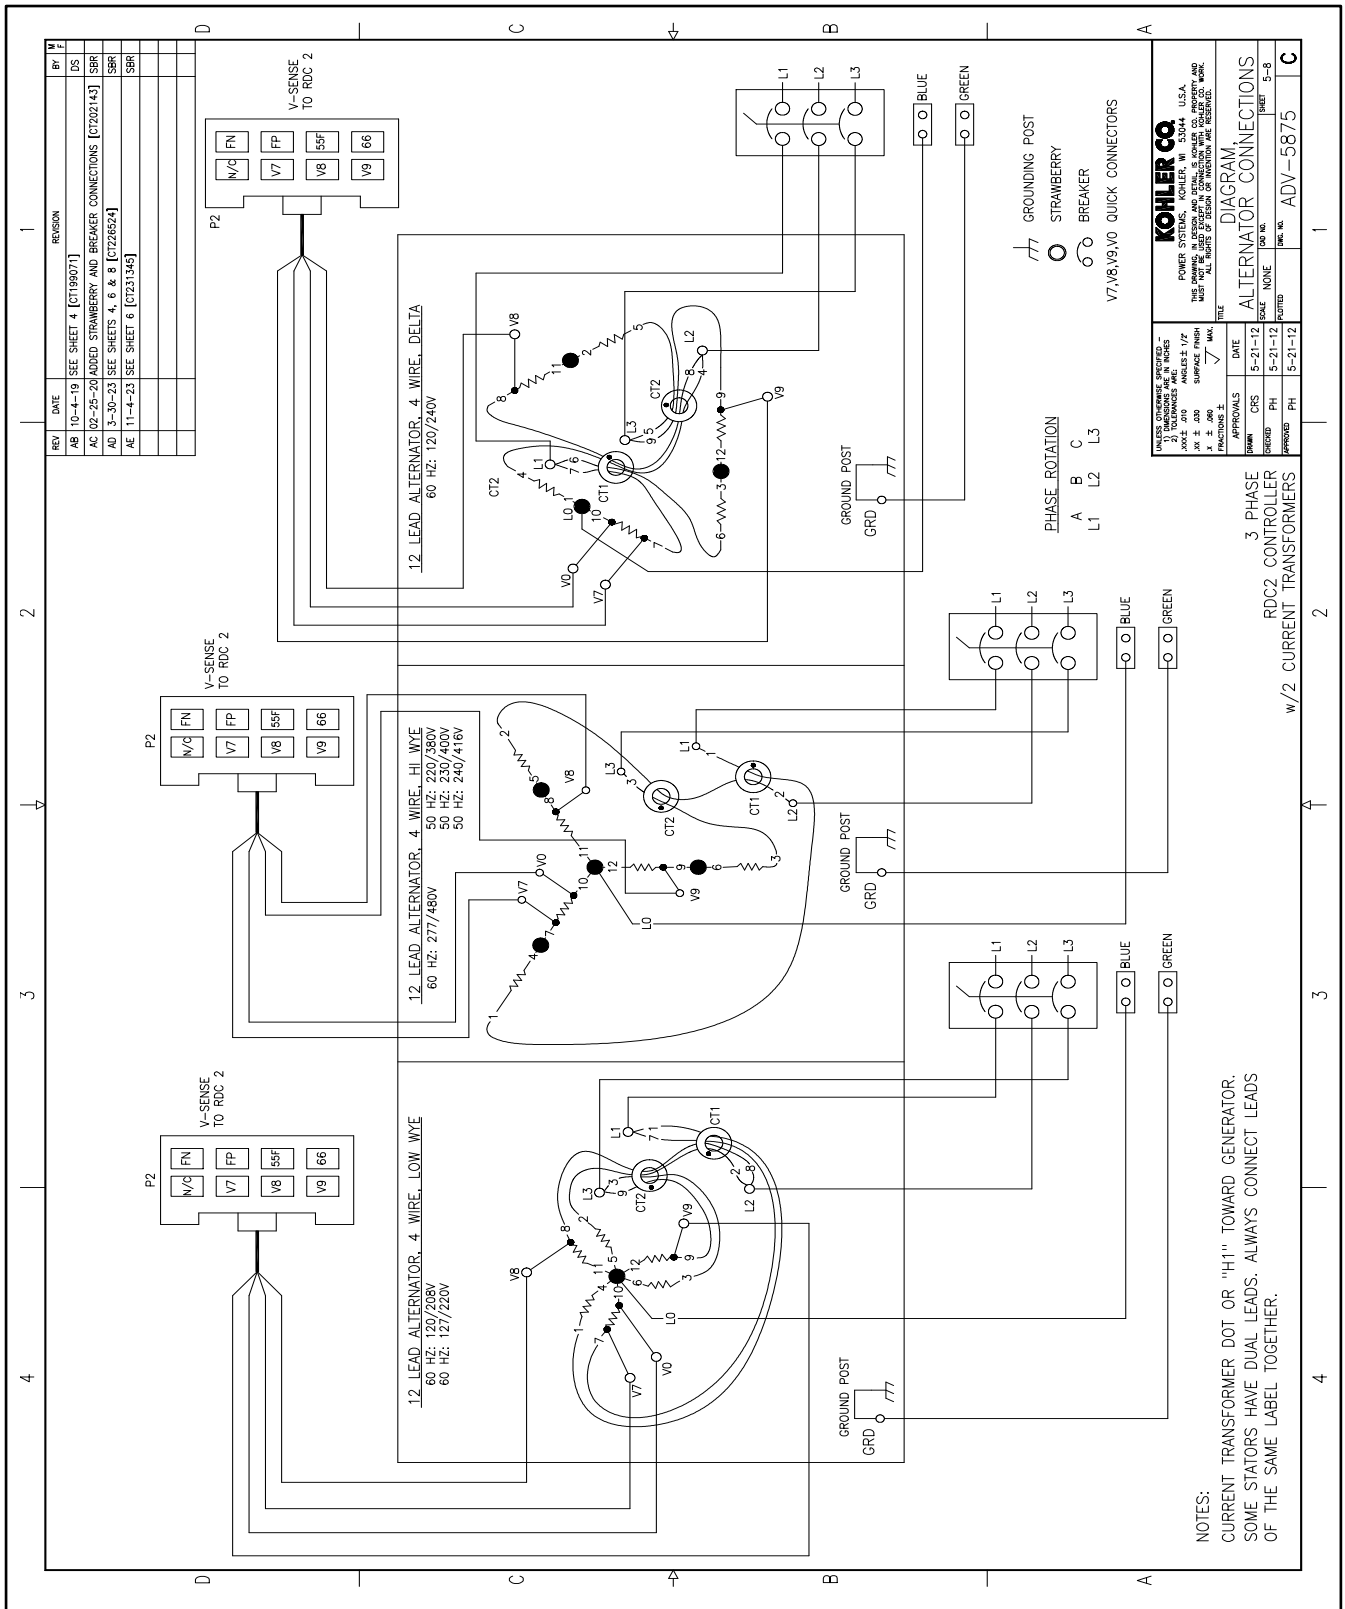

Figure 27 12-Lead Generator Reconnection
See Figure 27 for alternator connections. In addition to changing the alternator lead connections and routing through the current transformers (CTs), you must change the system voltage by changing the voltage setting on the controller. Use Kohler® SiteTech™ software or the controller menus to change the voltage setting. See the Controller Setup section for instructions.
6. Select desired voltage connection. See Figure 27. Connect the leads according to the diagram for desired phase and voltage.